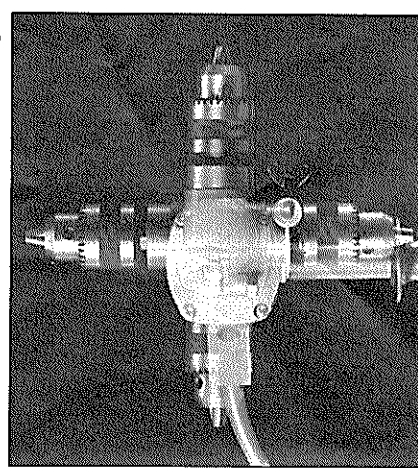

Fig. 5
3. In attaching the head, screw on the spindle end having the desired speed (HIGH or LOW), as shown in Fig. 5.